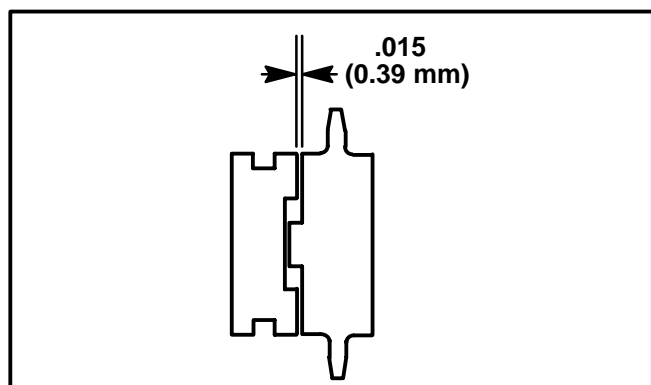

FIGURE 13
- After installing blade shifter assembly, adjust dog clutch to provide .015" (0.39 mm) clearance between clutch faces. See Figure 13.
6. Remove four (4) bearing cage screws and pull gears out left side of unit. Dog clutch and double sprocket will slide off as shaft is removed.
8. Assemble in reverse procedure. After blade shifter assembly is installed, adjust dog clutch to provide .015" (0.39 mm) clearance between clutch faces. Refer to Figure 13.
8. Assemble in reverse procedure. Adjust dog clutch as shown in Figure 13. Apply 3M Scotch Grip 847 adhesive or an equivalent to gear case cover before installation.